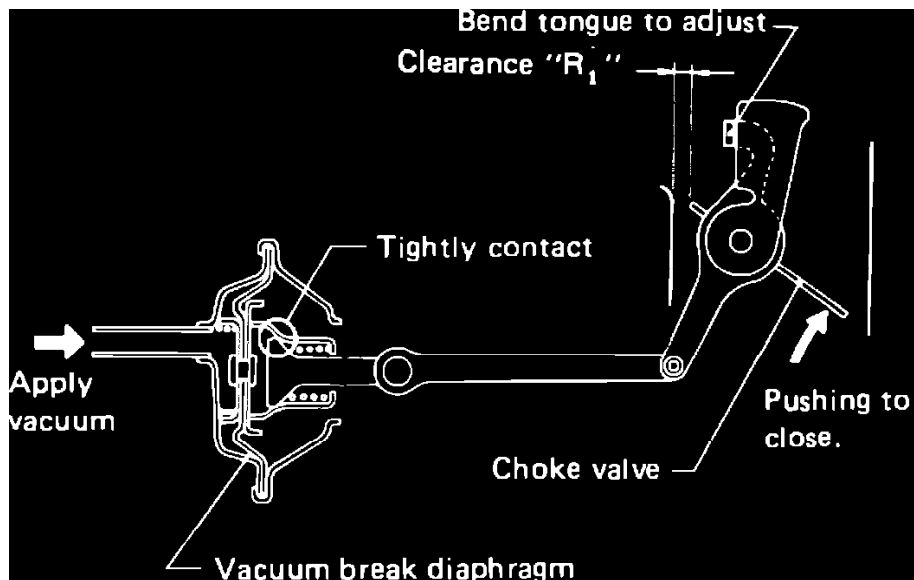

Fig. 12 Vacuum break adjustment, below 41F ambient temperature.
2. With ambient temperature below 41°F, measure clearance R1, Fig. 12, with choke valve closed and adjust to specifications by bending tongue.